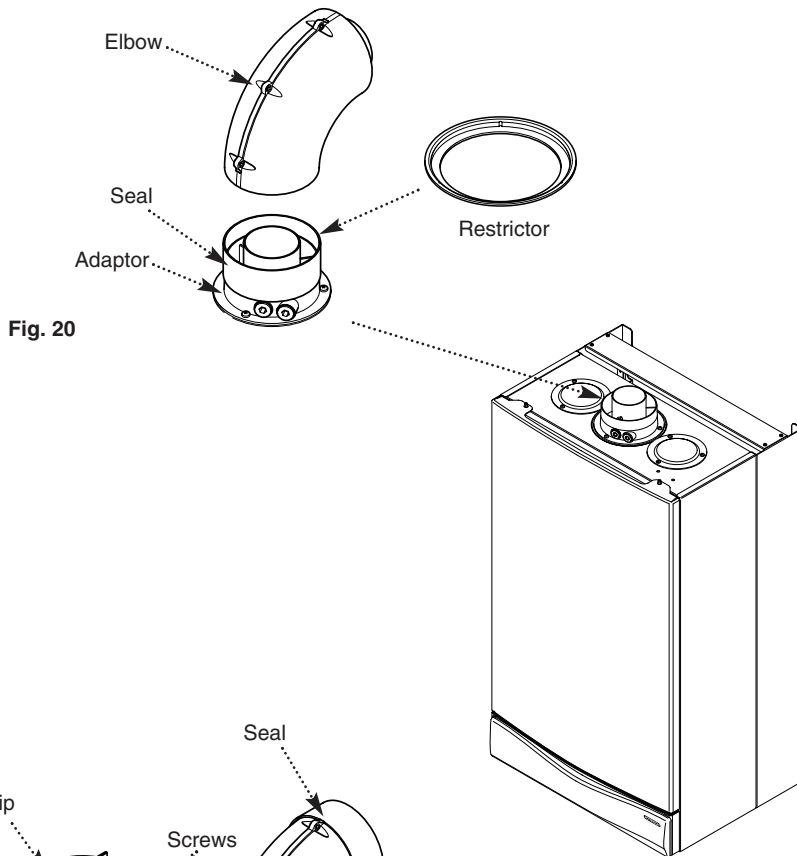

Fig. 20
IMPORTANT: If the equivalent flue length is greater than 1.5m the restrictor **MUST** be removed from the adaptor (Fig. 20).
8. Take one of the rubber seals and position it on the boiler flue adaptor. Engage the flue elbow on the adaptor and pull the sleeve up so that it equally covers the joint (Fig. 20).